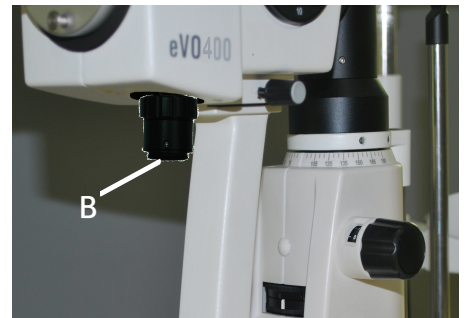

Figure 13
2. Fix the Lens Adapter by rotating it Clock wise to the Inlet Tube for Camera shown as (B)., Refer Figure. 13.